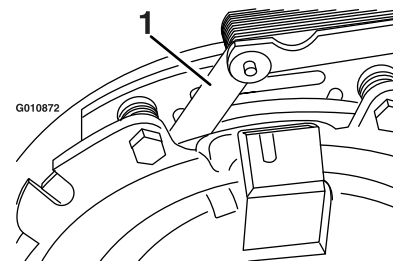
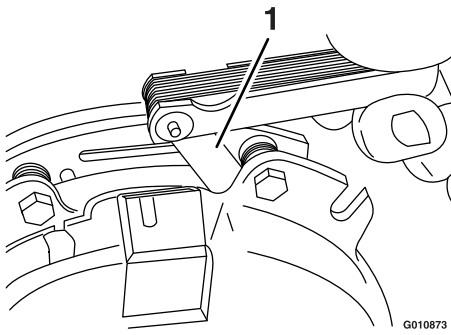

Figure 82
Figure 83
- E. Using a 0.25 mm (0.01 inch) thick feeler gauge, verify that a gap is present between the rotor and the armature face on both sides of the brake pole as shown in Figure 82 and Figure 83.